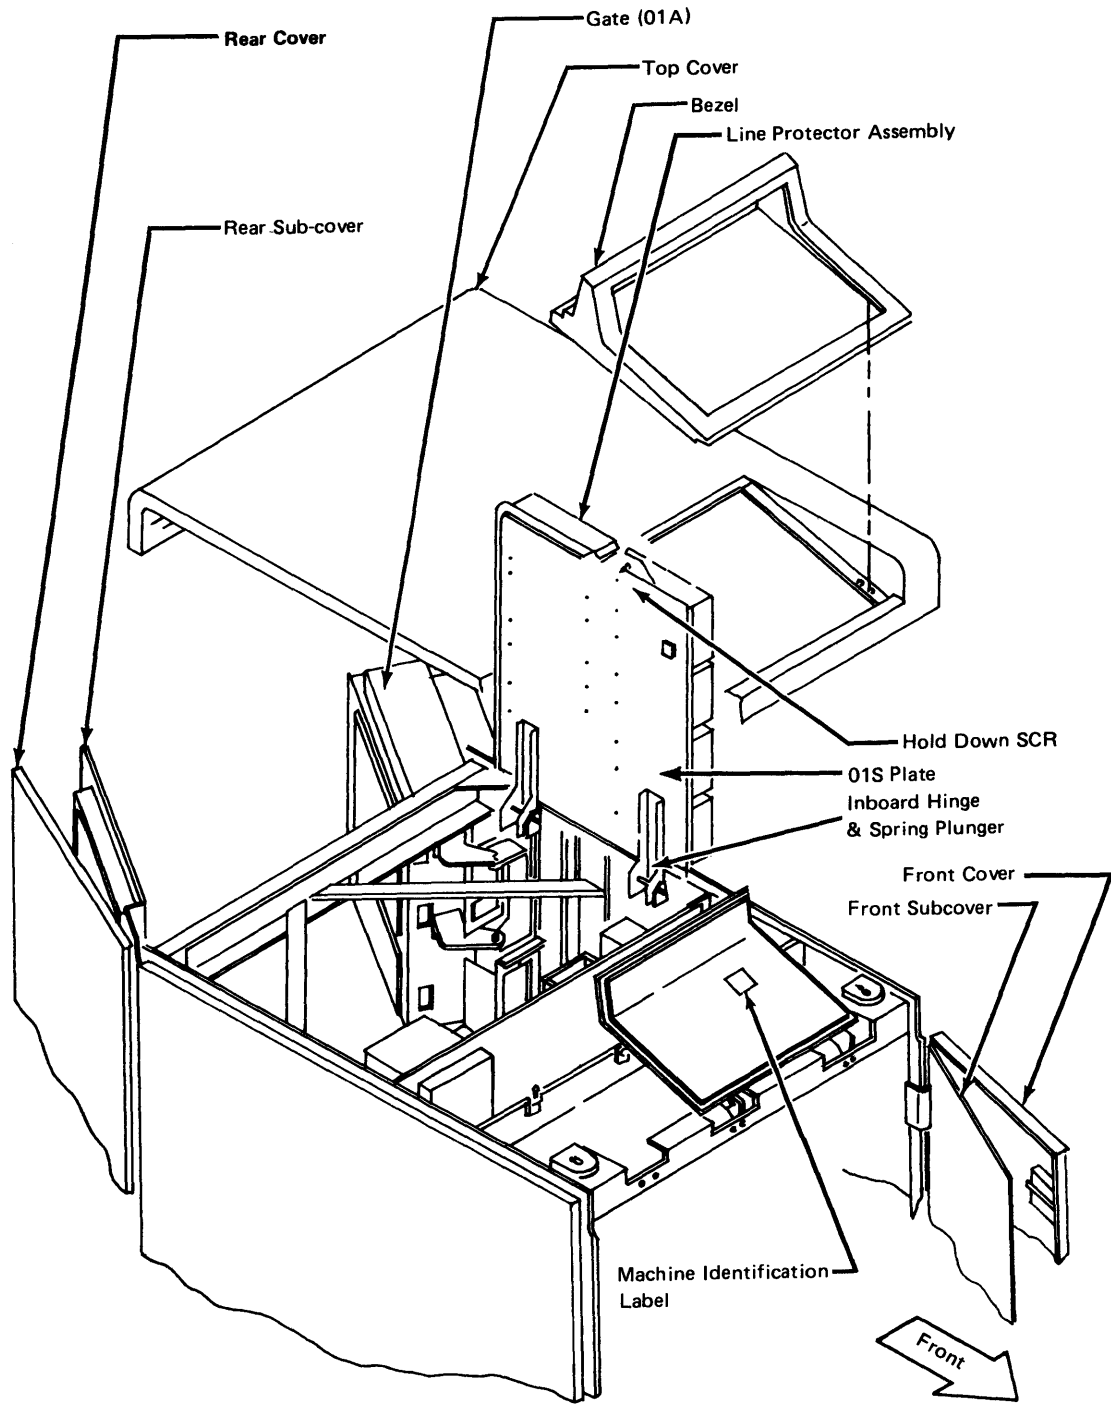

Figure SC520-1. Typical Top Covers
2. At the unit it is necessary to change the flat white I/O cables, open the front cover and front subcover, reach under the top cover to disengage the bezel stud latches, and remove the bezel (see Figure SC520-1).